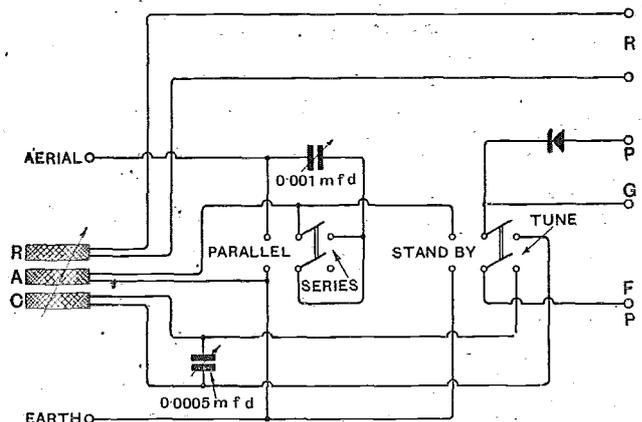

Fig. 1.—The theoretical connections from which the circuit can easily be traced out.
**T**HIS unit is of the type employing aerial and closed circuits inductively coupled, and each tuned with a variable condenser. The aerial tuning condenser may be switched either in series or parallel with the tuning coil, and the secondary circuit may be switched in or out of circuit as desired. A secondary circuit permits of sharp tuning and the elimination of many types of interference, but for local work it is not always required. When a switch is connected as indicated here, it is an easy matter to try by comparison whether the closed circuit improves the particular signals being received. Both tuning condensers are of the square law pattern; each fitted with a vernier for fine tuning. A simplified diagram is given in Fig. 1.